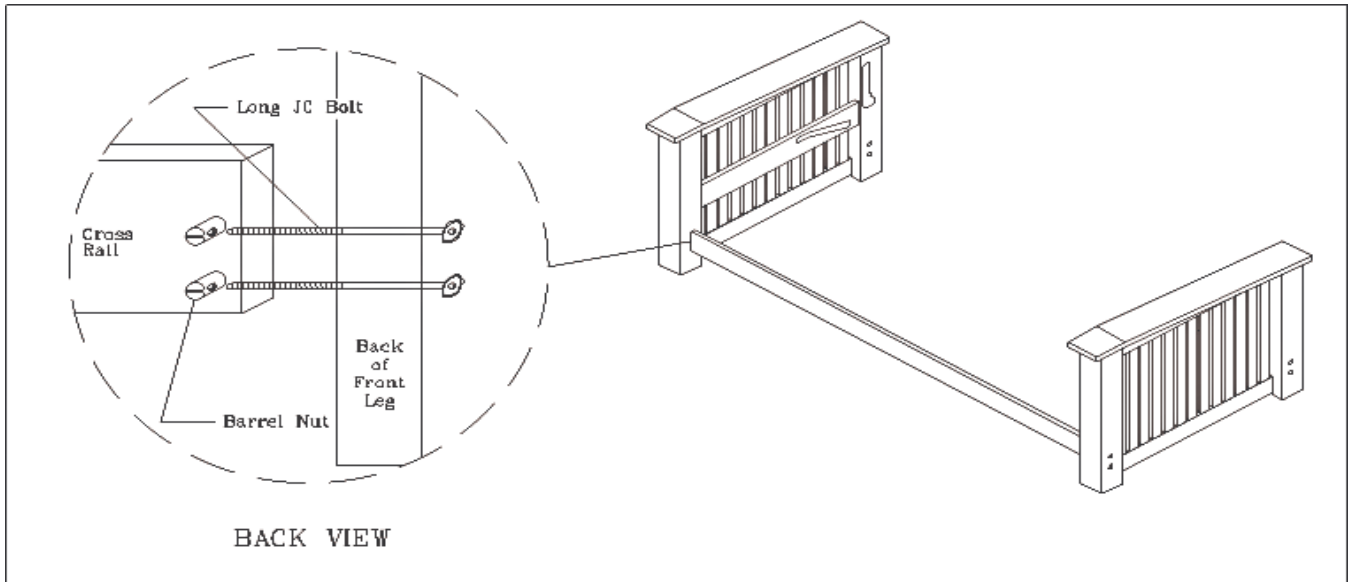

Figure 5
- 6) Locate arm assemblies and one of the cross rails. Place a barrel nut in each hole in side of cross rail. Make sure that the threaded holes in barrel nuts line up with holes in ends of rail and that the slotted end of barrel nut is exposed (Figure 5). Also, if assembling frame model 1620, make sure that the rail marked “Front” is facing with the metal guards up and the front sticker to the inside of the frame.
- 7) Place long JC bolt through top hole in outside of arm assembly's front leg and start it into a barrel nut in one of the cross rails. Be sure slotted end of barrel nuts are toward inside of frame. **DO NOT TIGHTEN!** If bolt won't start, use slotted screwdriver to position barrel nut. Leave about 1/4" of play. Place long JC bolt through bottom hole and start it, also leaving 1/4" of play. Repeat procedure for other arm. When all 4 bolts are set, gently pull back legs apart just past point of armrest being parallel (Figure 5).